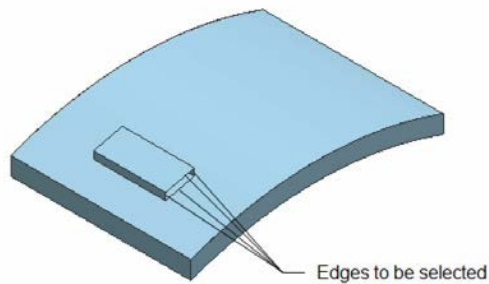

Figure 11-75 Edges to be selected
- e. Create the fourth feature by using the **Bounded** tool, refer to Figures 11-75 and 11-76.
2. Select the edges of the third feature to create a bounded plane, refer to Figure 11-75.